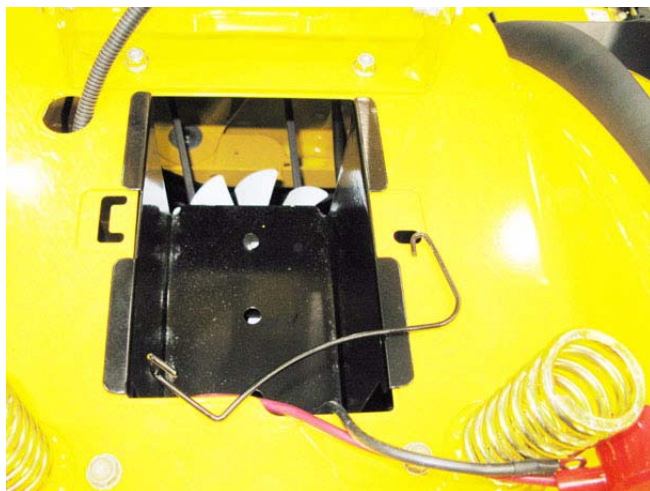

Figure 5.44
3. Remove the battery and battery tray by following the procedures described in Chapter 4: Body Panels. See Figure 5.44.